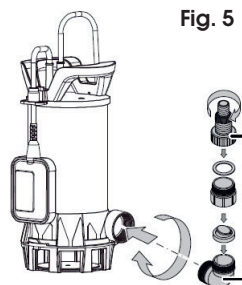

Fig. 5
- ✿ Screw the connection onto the pump body. If disassembled, assemble as shown on Fig. 5 (for detailed description, see fig. 3).
- ✿ The submersible pump must be hung on a holder (Fig. 5) or be placed on the bottom of the tank.